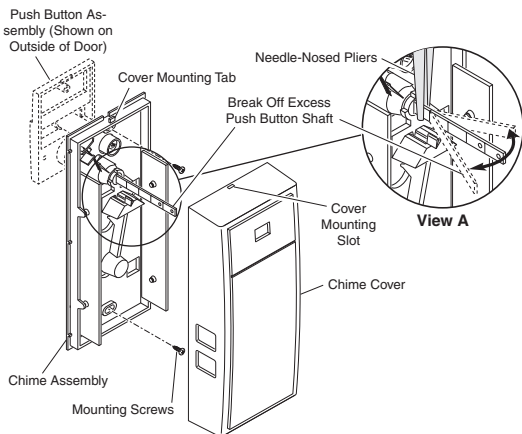

Figure 2 - Mounting Chime Assembly and Attaching Chime Cover
1. Position chime assembly over push button shaft and viewer (see Figure 2).
3. Attach the top and bottom of chime assembly securely using mounting screws provided (see Figure 2).
1. To insure proper clearance when the cover is attached, break off the excess push button shaft. **IMPORTANT:** To avoid breaking plastic chime assembly parts, use needle-nosed pliers to hold shaft securely while bending shaft back and forth to remove (see Figure 2, View A).